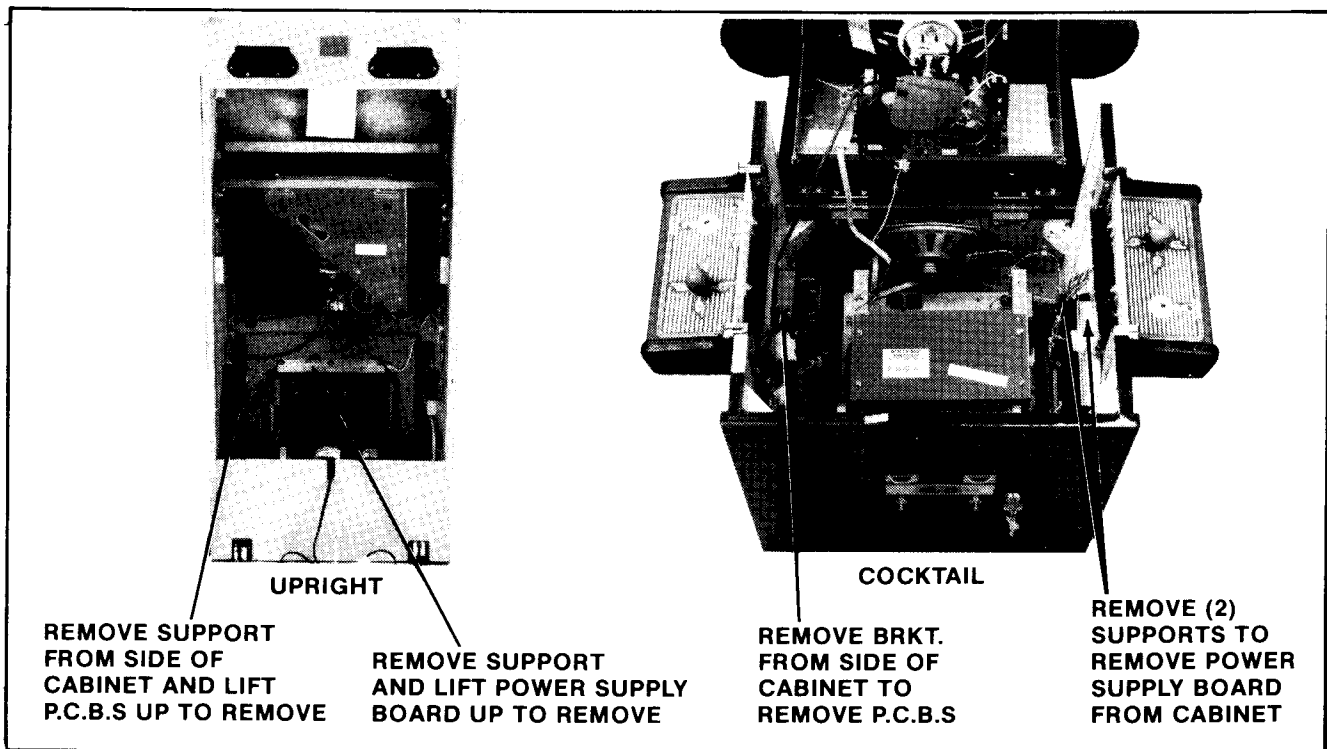

Figure 4-10 Removing P.C.B.s
1. **UPRIGHT MODEL:** See Figure 4-10.
- Disconnect the Power Supply board from all its cabling, remove the P.C.B. supports indicated in Figure 4-10, and slide it out the back of the cabinet.
2. **COCKTAIL TABLE MODEL:** See Figure 4-10.
- To remove the Power Supply Board. See Figure 4-10.